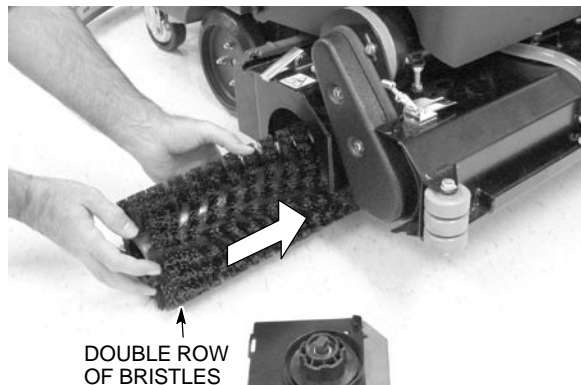

FIG. 8
- With the double bristle row end towards you, guide the brush into the drive hub (Figure 8).